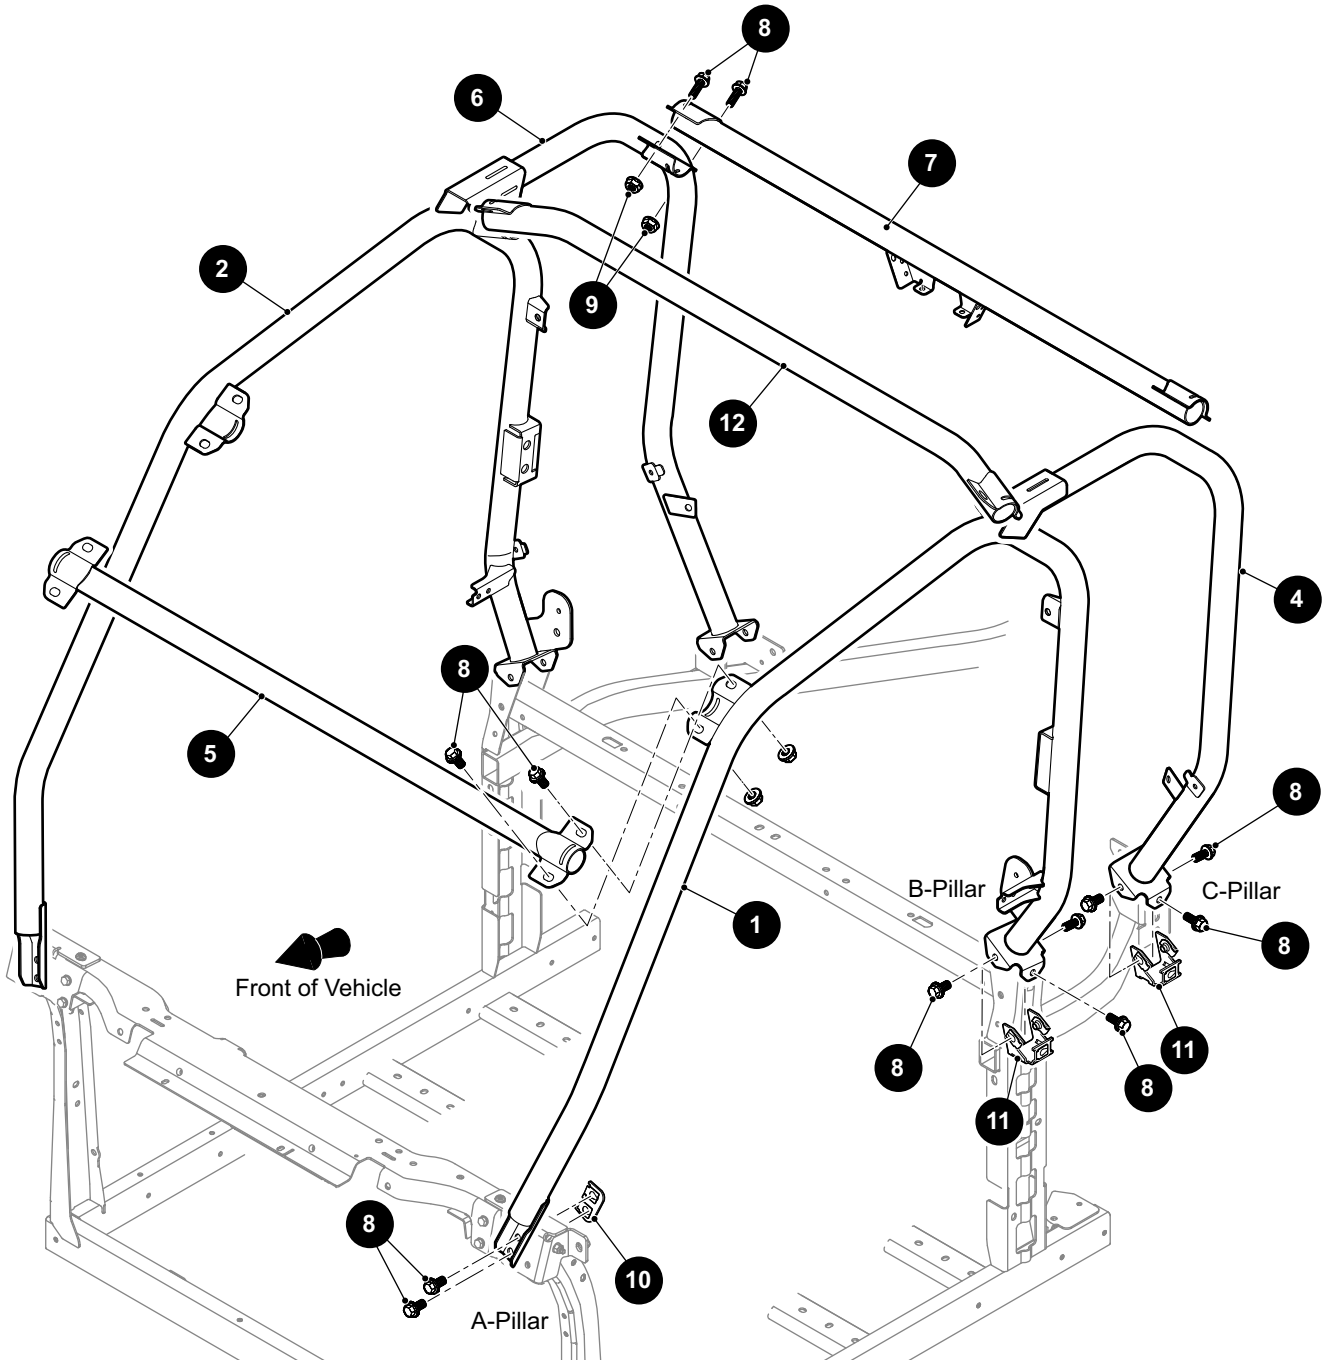
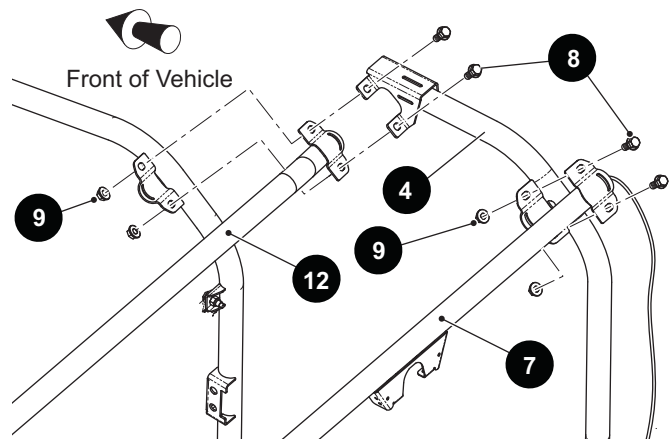

Fig. 1 ROPS Components
Fig. 2
2. Remove the bolts (8) and the nuts (9) that secure the ROPS side tubes (1 and 2) to the seat back supports (24) (Ref. Fig. 1).
3. Remove the bolts (8) and the mounting plate (10) that secure the front of the ROPS side tubes (1 and 2) to the A-pillar of the frame.
4. Remove the bolts (8) and the mounting plate (11) that secure the rear of the ROPS side tubes (1 and 2) to the B-pillar of the frame.
5. Remove the bolts (8) and the mounting plate (11) that secure the extended cab tubes (4 and 6) to the C-pillar of the frame.
2. Position the driver side ROPS tube (1) as shown (Ref. Fig. 1). Secure the front of the side ROPS tube (1) to the vehicle frame A-pillar with bolts (8) and mounting plate (10). Finger tighten hardware to allow for adjustment.
3. Attach the other end of the driver side ROPS tube (1) to the B-pillar. Secure with bolts (8) and mounting bracket (11). Finger tighten hardware to allow for adjustment.
4. Repeat the above steps for installing the passenger side ROPS tube (2).
1. Position the lower end of the extended cab ROPS tube (4) over the driver side C-pillar of the vehicle frame and secure with bolts (8) and nuts (9) (Ref. Fig. 1). Finger tighten hardware to allow for adjustment.
2. Repeat the above steps for installing the passenger side extended cab ROPS tube (6).
3. Do not install the top bracket hardware of the extended cab ROPS tube (4 and 6) until the rear cross-tube (12) has been installed (Ref. Fig. 2).
- Slide the ends of the cross-tube (12) in between the ROPS tube mounting brackets (1 and 4) and align the mounting holes of all three brackets (Ref. Fig. 1)(Ref. Fig. 2). From the top, insert bolts (8) into the mounting holes, and secure with lock nuts (9). Finger tighten bolts to allow for adjustment.